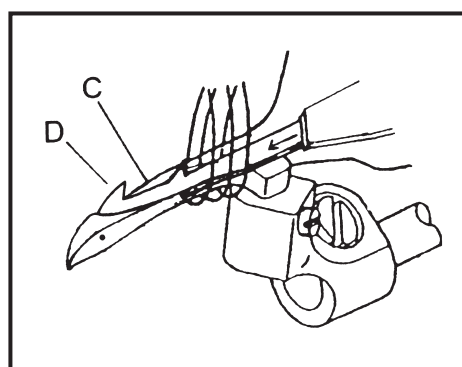

Fig.46-2
When the Moving knife move to the left dead point which looper thread must be dropped into the left hook (D) of Moving knife (A). (Fig.46-2)